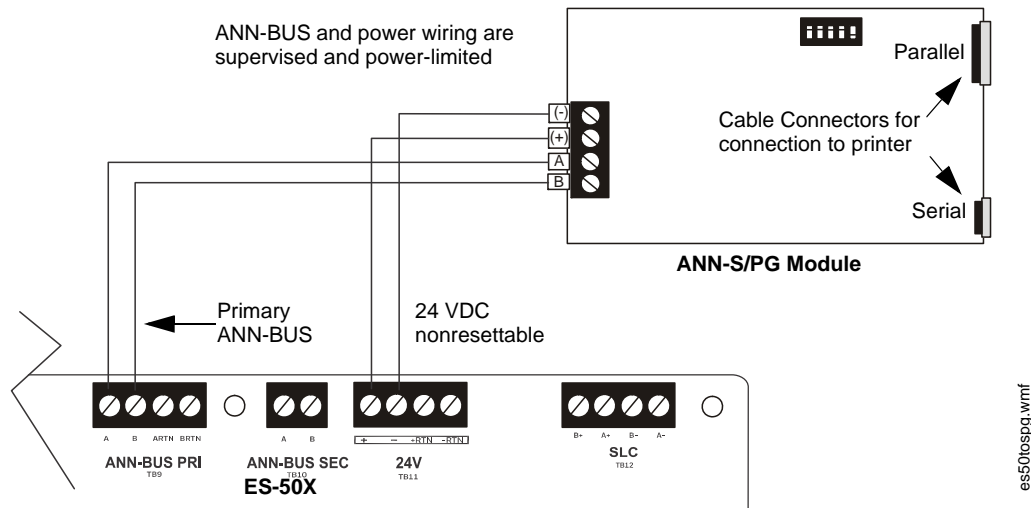

Figure 2.21 ANN-S/PG Connection to FACP
2. Connect the ANN-S/PG to the FACP as illustrated in Figure 2.21
5. Connect a printer to the ANN-S/PG Parallel or Serial connectors (refer to Figure 2.21). Only one printer can be connected.